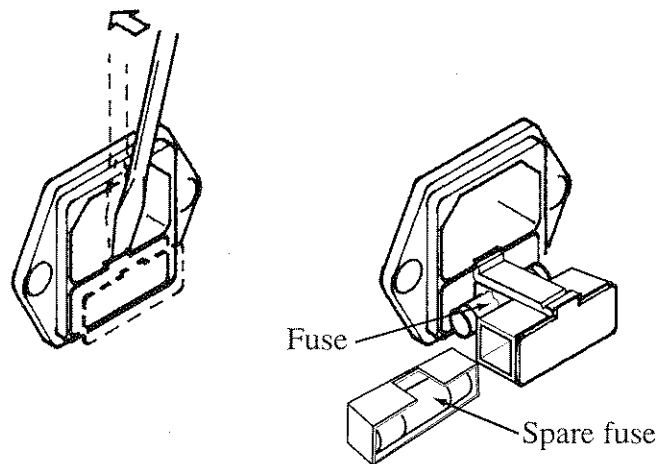

Fig. 6-1 Removing the Fuse Holder
3. Use a screwdriver to remove the fuse holder, as shown in Fig. 6-1.